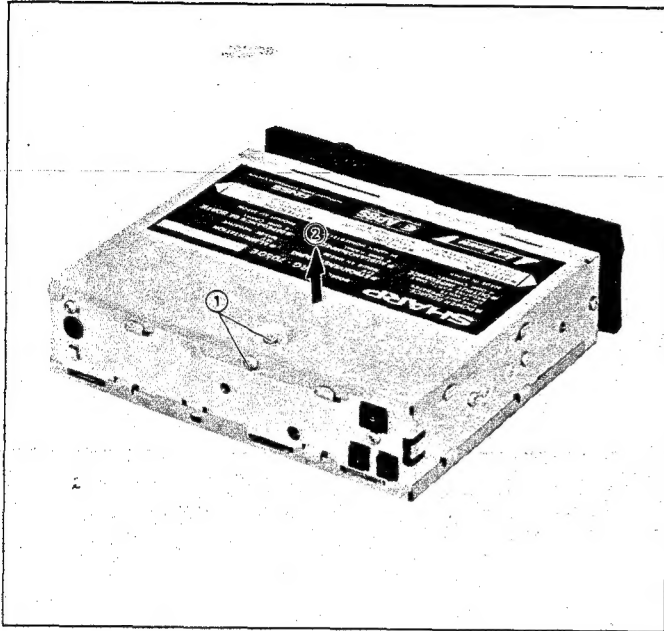

Figure 4-1
- ① Remove the two (2) screws from the cabinet.
- ② Remove the Top cabinet, then take it out. (See Fig. 4-1)